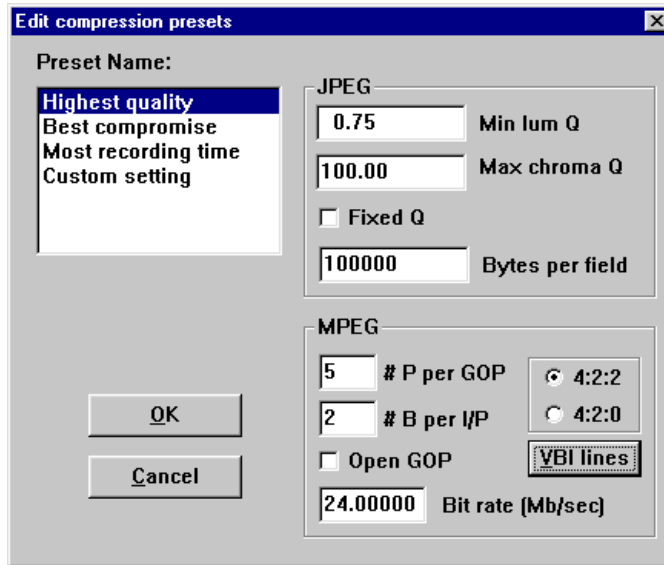
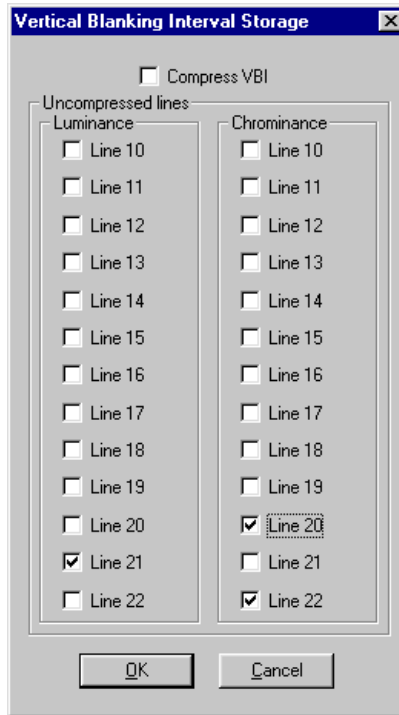

Figure 82. Edit Compression Presets dialog box
Figure 83. Vertical Blanking Interval Storage dialog box
2. Edit the preset values. Refer to Table 8 for the JPEG factory-set preset values and to Table 9 for the MPEG values. To change the values, click **Edit Presets** to open the Edit Compression Presets dialog box shown in Figure 82. You can change the values of the presets, if desired. Select the preset in the **Preset Name** box, change the values under **JPEG** or **MPEG**, and then click **OK**.
The MPEG section of the Edit compression presets dialog box has a button labeled **VBI lines** (see Figure 82). This button opens the Vertical Blanking Interval Storage dialog box (see Figure 83) which allows you to select from one to three lines in the vertical blanking interval (VBI) that will *not* be compressed with the video data, but will be stored without being encoded to avoid losses. This is desirable for uses such as closed captioning which would be seriously degraded by losses incurred at lower bit rates.